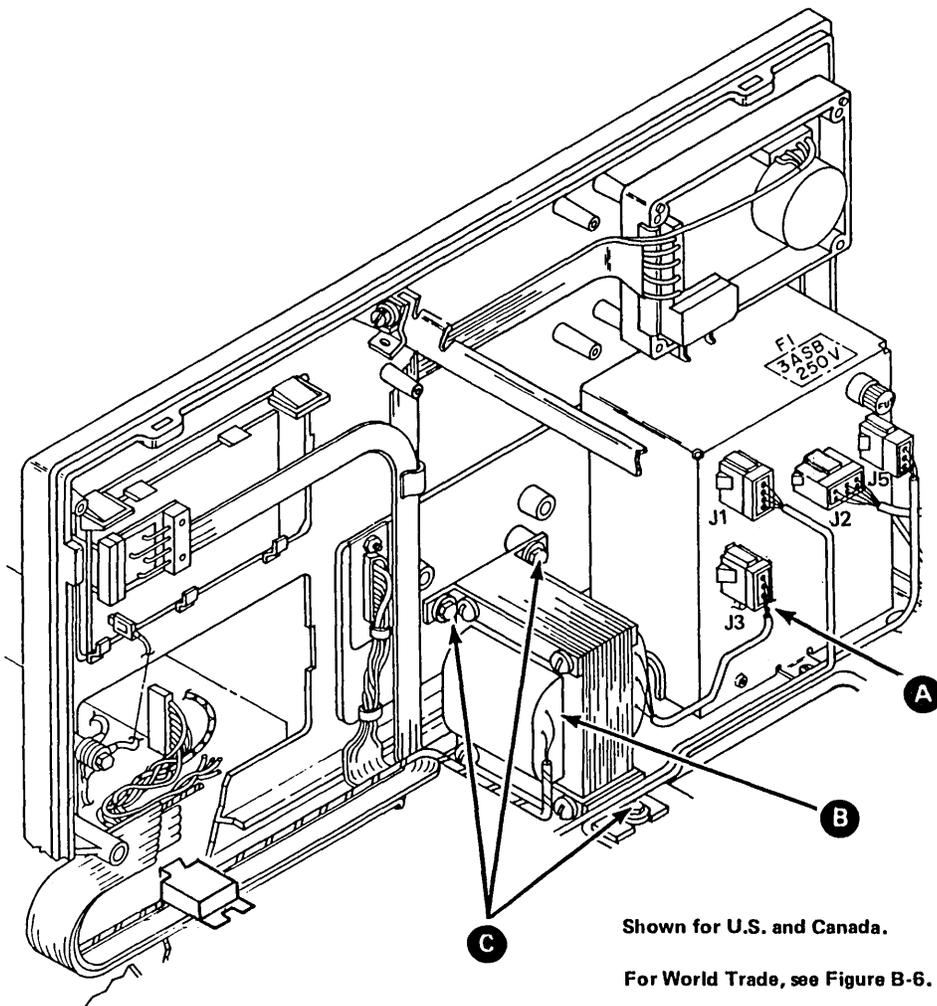

Figure 4-5. Prime Power Transformer
4.6 Prime Power Transformer, Removal and Replacement (Figure 4-5)